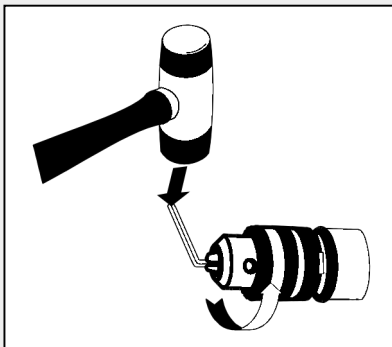

Fig. 12
7. Insert hex key into chuck and tighten jaws of chuck securely (Fig. 12). Tap the hex key sharply with a mallet in a COUNTER CLOCKWISE direction. This will loosen the chuck on the spindle. The chuck can now be unscrewed and removed from the spindle by hand.